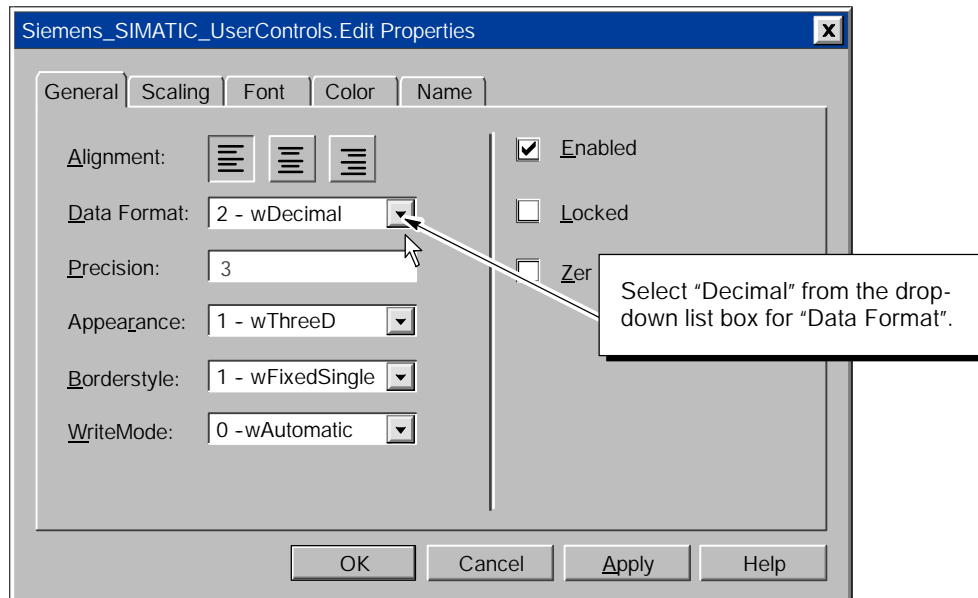

Figure 1-21 Configuring the Display Properties of the Edit control
3. Scroll to the entry for decimal and click on "2 - wDecimal" to display the value in binary format (0 or 1). See Figure 1-21.